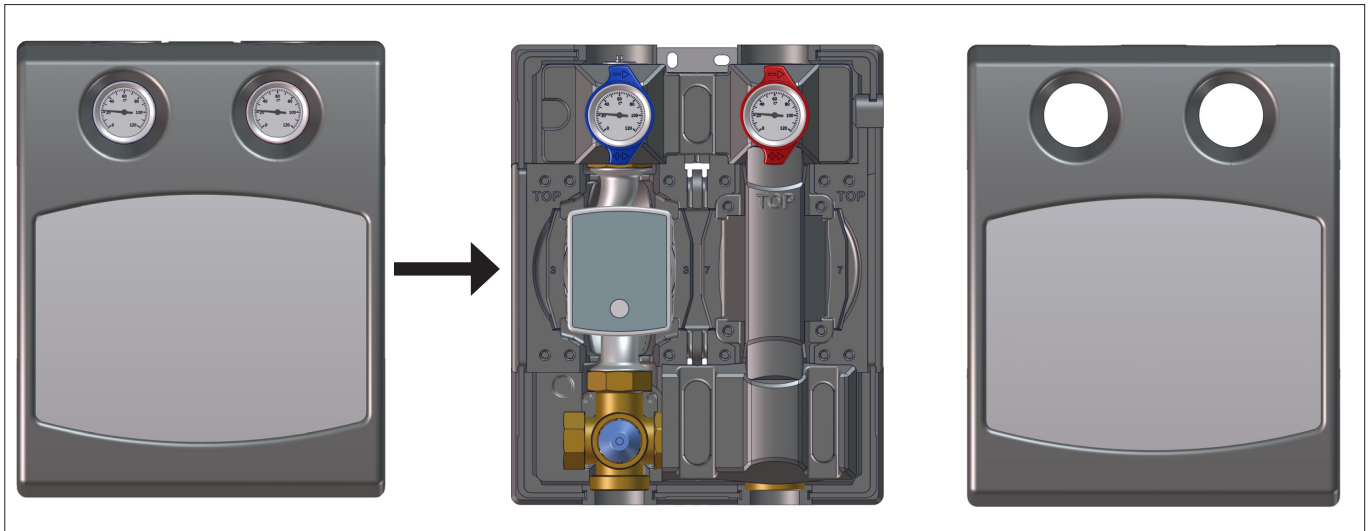
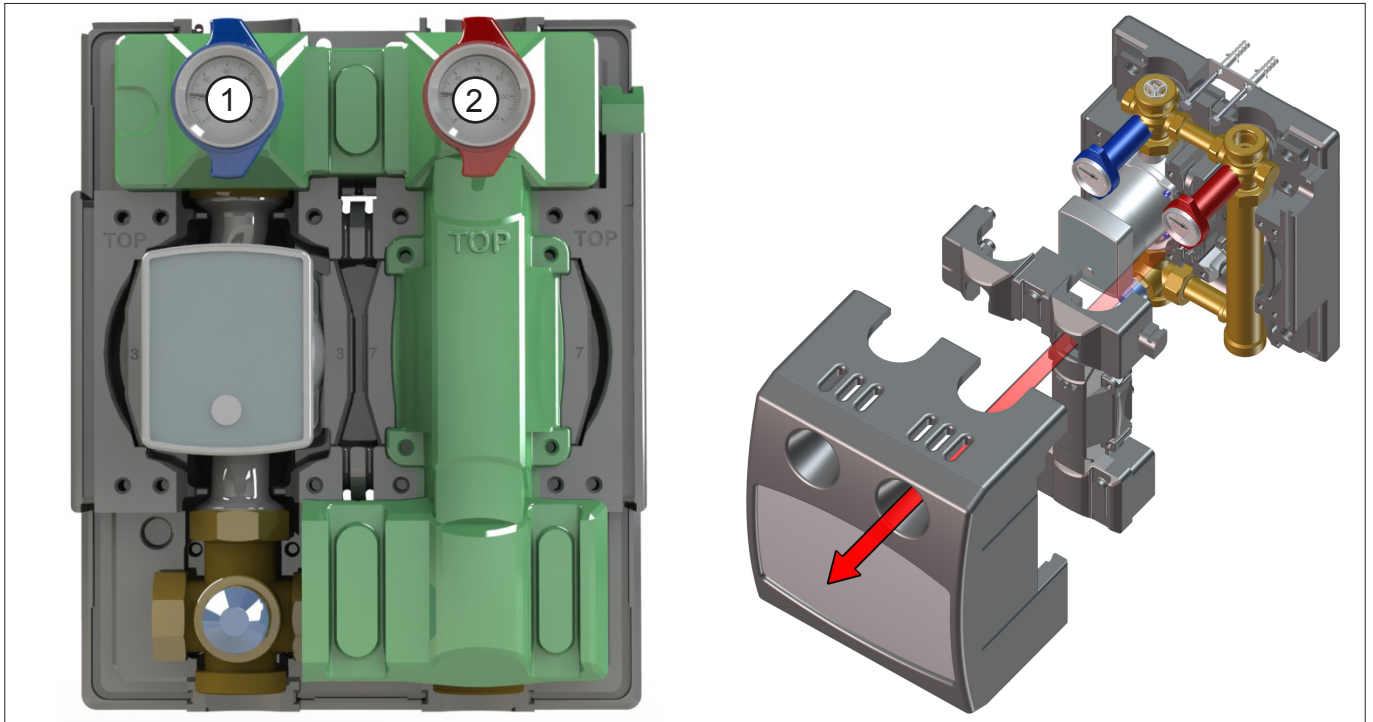

Fig. 4: Remove front insulating jacket
Fig. 6: Remove insulations
- Remove the front cover on the Boiler charging station (see Fig. 4 on page 10).
- Close the shut-off cocks (items 1+2) by turning the handle of the thermometer (see “Thermometer handle positions” on page 11).
- Remove the insulations (Fig. 6).
- **Slowly** open the shut-off cocks (items 1+2 Fig. 6 on page 13) by turning the handle of the thermometer (see “Thermometer handle positions” on page 11).